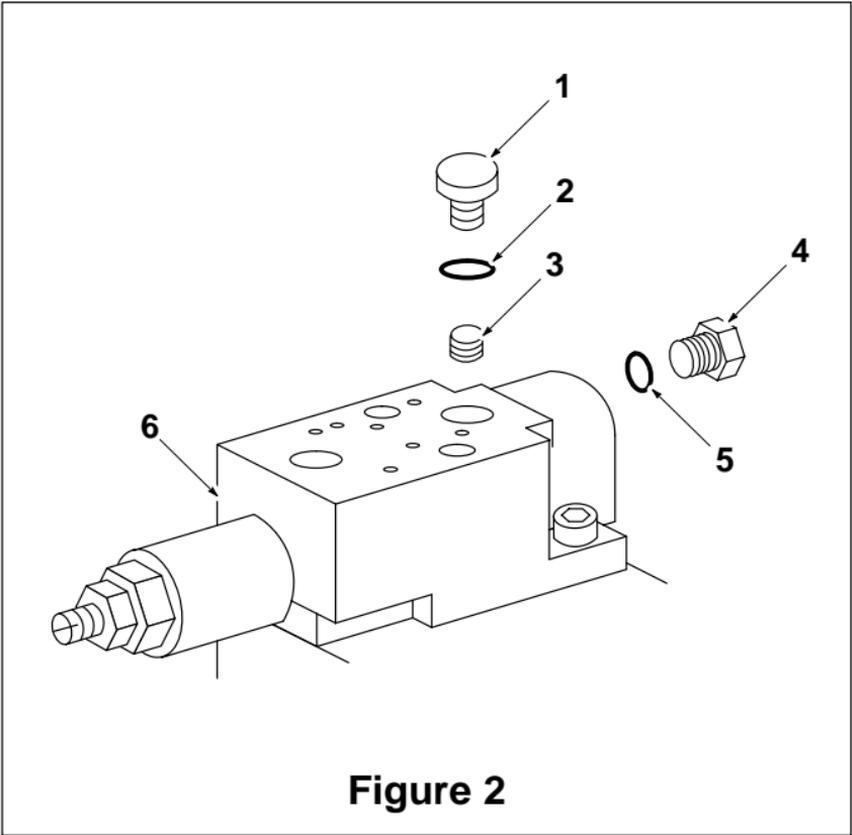

Figure 2
1. Using $\frac{1}{8}$ " hex wrench, remove port plug (1) and O-ring (2) from IC compensator (6) (see figure 2).
2. Using $\frac{5}{32}$ " hex wrench, remove internal plug (3) from IC compensator (6).
3. Using $\frac{1}{8}$ " hex wrench, reinstall port plug (1) with new O-ring (2). Tighten port plug and torque to 12,1 to 12,4 Nm (8.9 to 9.1 lb.ft.).